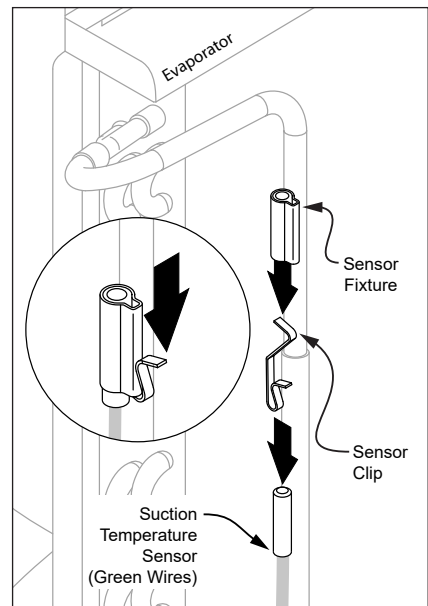

Figure 103 - Suction Temperature Sensor (Located Top Left Side of Evaporator)
- 14** Locate Suction Temperature Sensor (green wires). Cut cable tie(s) securing foam insulation around sensor. Slide insulation down to reveal sensor. Pull downward on clip to remove sensor and clip from fixture (see Figure 103). **DO NOT** discard insulation.